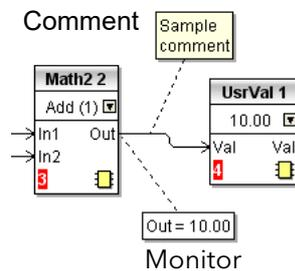

Figure 141 Comment and Monitor appearance
Comments can be linked to function blocks and wires by clicking on the chain icon at the bottom right-hand corner of the comment box and then clicking again on the required block or wire. A dashed line is drawn to the top of the block or to the selected wire segment (Figure 141).
**Note:** Once the comment has been linked, the Chain icon disappears. It re-appears when the mouse cursor is hovered over the bottom right-hand corner of the comment box, see Figure 141.